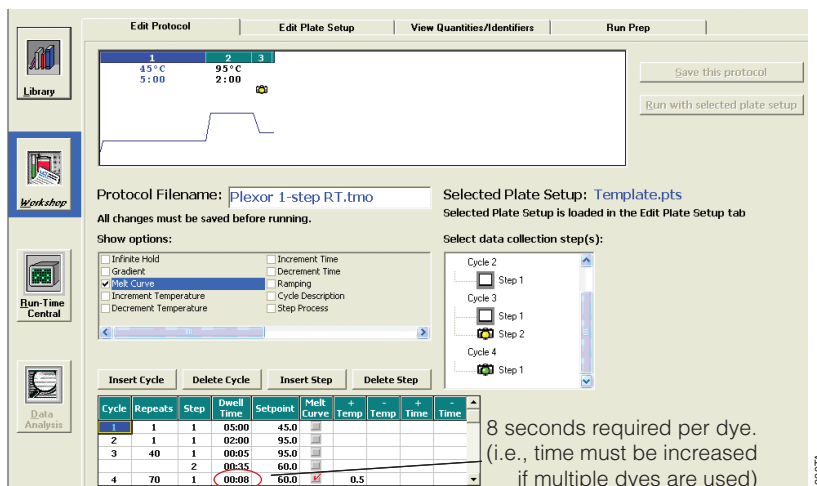

Figure 7. Selecting the “Melt Curve” in the Workshop module.
The one-step qRT-PCR thermal cycling program is shown in Table 2. Primers designed using the Plexor™ Primer Design Software have an annealing temperature of approximately 60°C. Figure 7 shows the final thermal cycling program.
5. The Workshop module will appear. Select the “Melt Curve” checkbox from the “Show options:” panel (Figure 7).
6. Create the protocol shown in Figure 7 as follows:
- Use the “Insert Cycle”, “Delete Cycle”, “Insert Step” and “Delete Step” buttons (Figure 7) to create a new protocol. To insert or delete a cycle or step, select the appropriate button then select the position of the cycle/step in the protocol table. Deselect the active button before directly editing the cells.
- The “Dwell Time” for the final melt step must be 00:08s per dye used (Figure 7, bottom panel).
7. In the “Select data collection step(s)” panel, select “Cycle 3, Step 2” and “Cycle 4, Step 1” for data collection (if not already indicated) by double-clicking the desired Step (a camera icon indicates that a step is selected for data collection; Figure 7).